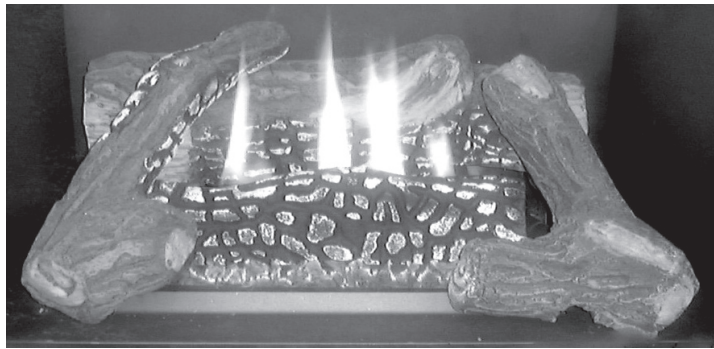

Figure 15 - Burner Flame Appearance Models SSBV-3530 & SSBV4035 Series
3. Allow the burner to operate for at least 15 minutes while observing the flame continuously to ensure that the proper flame appearance has been achieved (see **Figure 15**). If the following conditions are present, adjust accordingly.